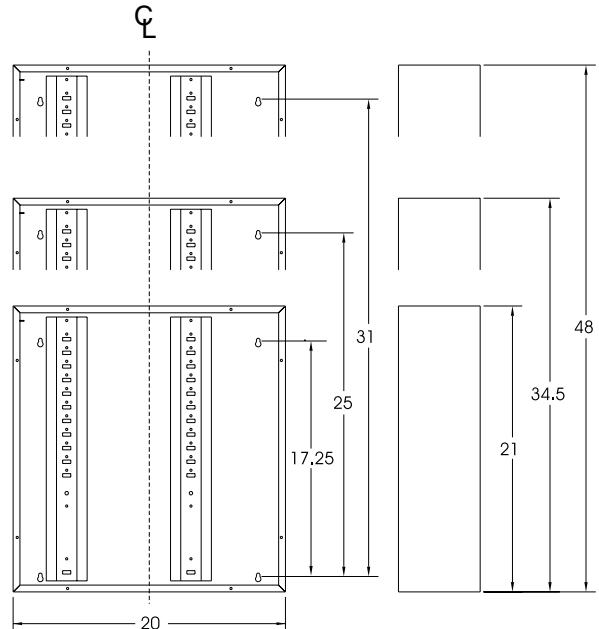

Figure 2 - Cabinet Dimensions (inches)
4. Cabinet Physical Specifications — See *Figure 2*.
2. **Mount Cabinet** — Mount the cabinet to structural members as required using the four holes that have been provided in the back of the cabinet. Refer to *Figure 2* for dimensions.